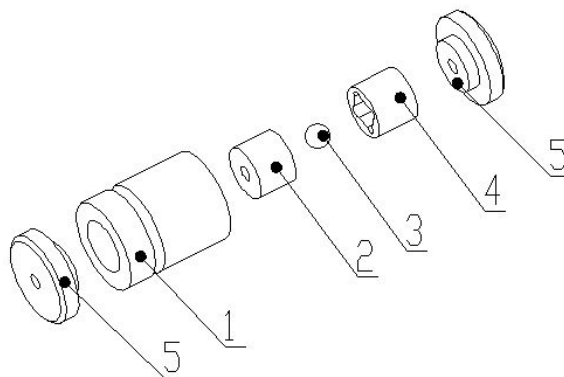

Figure 5-2: Assembly of the check valve
4) Assemble the cleaned check valve referring to figure 5-2. Roughness of different sides of the valve seat is not the same Identify them carefully before installation (the gem ball seats the smooth side).